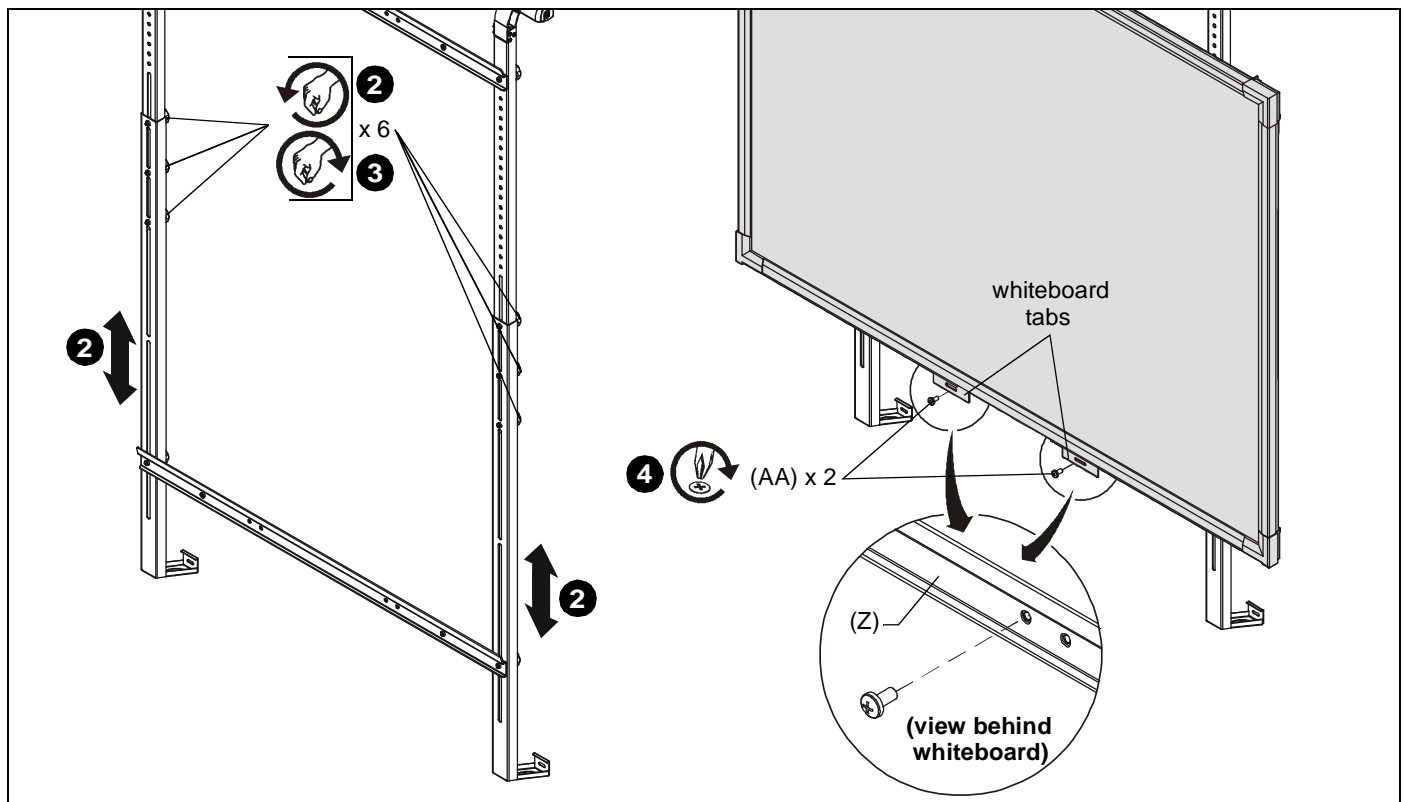

Figure 9
2. After whiteboard and complete upright assembly is in place, loosen three knobs on each side of assembly and raise/lower adjustable legs so that fastener holes in lower whiteboard hanger bracket (Z) match up with mounting holes in lower tabs of whiteboard. (See Figure 9)
3. Tighten all knobs. (See Figure 9)
4. Fasten bottom of whiteboard to lower whiteboard hanger bracket (Z) using two M6 x 12mm Phillips screws (AA) through tabs at bottom of whiteboard into front of whiteboard hanger bracket (Z). (See Figure 9)